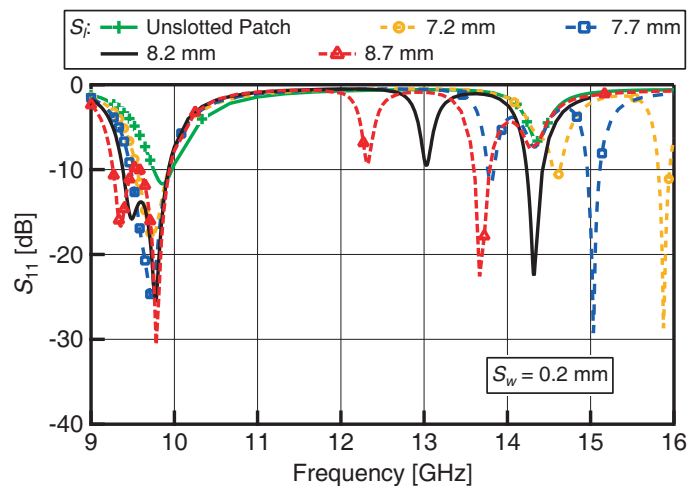
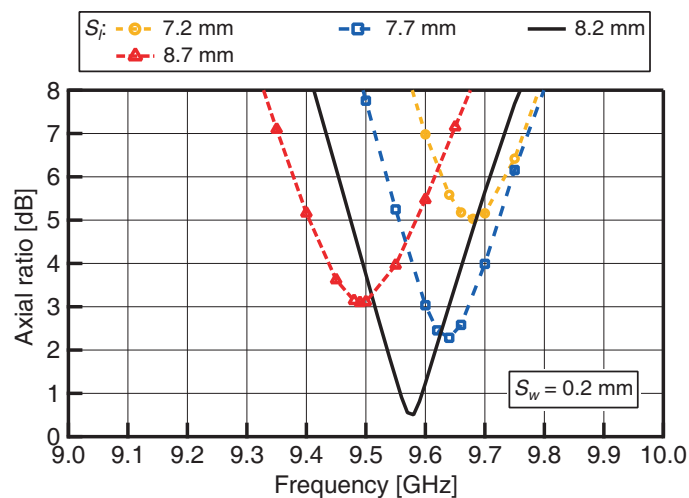
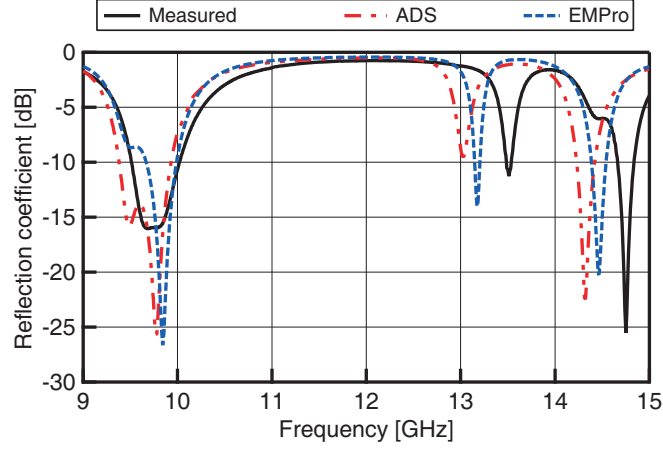
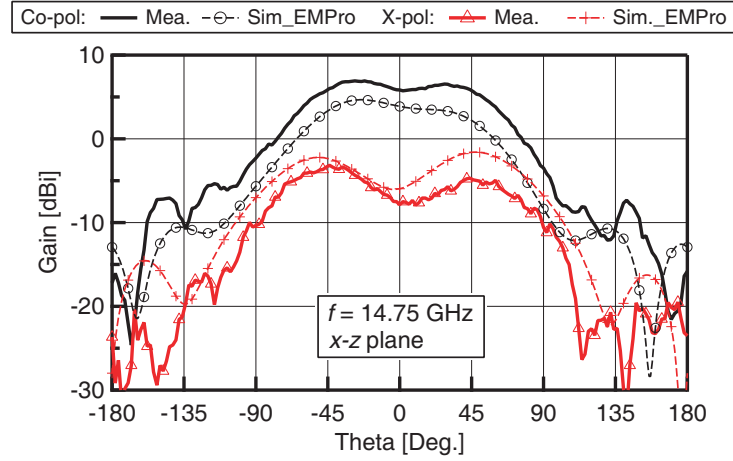

Figure 2. Effect of the slot length S_l on the S_{11} of the antenna.
Figure 3. Effect of the slot length S_l on the axial ratio of the antenna.
Figure 8. Reflection coefficient of the antenna.
Figure 12. Gain of the antenna at Ku-band for x - z plane.
Figures 2 and 3 show the effect of changing slot length S_l on the S_{11} and axial ratio (AR) of the proposed antenna. The unslotted patch is designed for X-band. The size of the slots needs to be adjusted to obtain optimum performance at both frequency bands. In X-band, the slots help to radiate CP, but they do not have any effect on the designed frequency of the patch because the narrow slots loaded near to the radiating patch edges are at a position where the patch current is a minimum. The size of the two parallel slots should be attuned properly to produce two orthogonal modes so that the sense of polarization can be CP, as shown in Fig. 3. In addition, Fig. 2 shows that the loading of the slots on the patch has a very small impact on the resonant frequency at X-band. In contrast, the
Figure 8 presents the measured and simulated reflection coefficients of the antenna. The measured 10-dB impedance bandwidths of the antenna at X- and Ku-band are 5.17% and 1.15%, respectively. The measured and simulated results show almost similar reflection coefficients with a slight frequency shift in the measured result at Ku-band. As shown in Fig. 2, the slot length affects the resonant frequency. Therefore, this frequency shift is caused by the slot length imperfection that occurred during fabrication. Moreover, simulation imperfection can be another reason for this mismatch because a frequency shift is also observed in the comparison between ADS and EMPro simulation results.
Figures 12 and 13 present the radiation performance of the antenna at Ku-band for x - z and y - z planes, respectively. In this frequency band, the antenna radiates LP. The measured gain of the antenna at Ku-band is about 5.80 dBi for both planes, whereas simulated gain is around 3.90 dBi. Although a good impedance matching is obtained at 14.75 GHz, the simulated S_{11} is above -10 dB at the same frequency as shown in Fig. 8. This might be the main reason for the discrepancy between the measured and simulated gains. The cross-polarization level is better than 13.7 and 15.6 dB at the x - z and y - z planes, respectively.